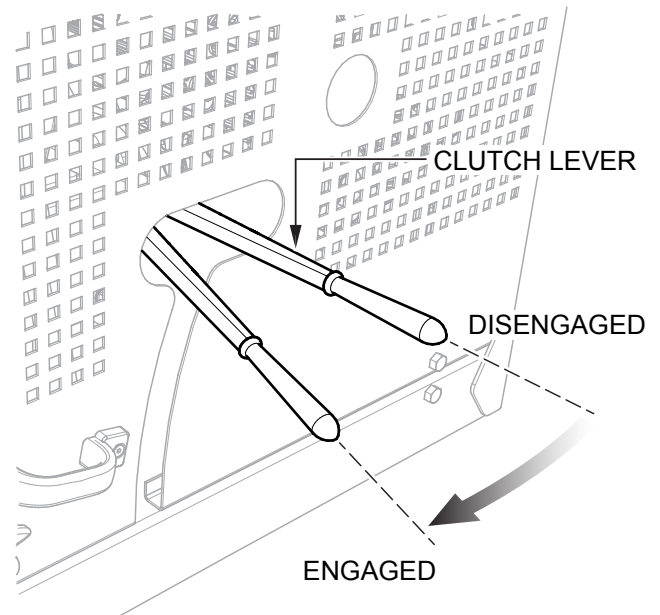

Figure 24. Clutch Engagement Lever
1. Push the clutch engagement lever forward (Figure 24), toward the tow end of the mixer.